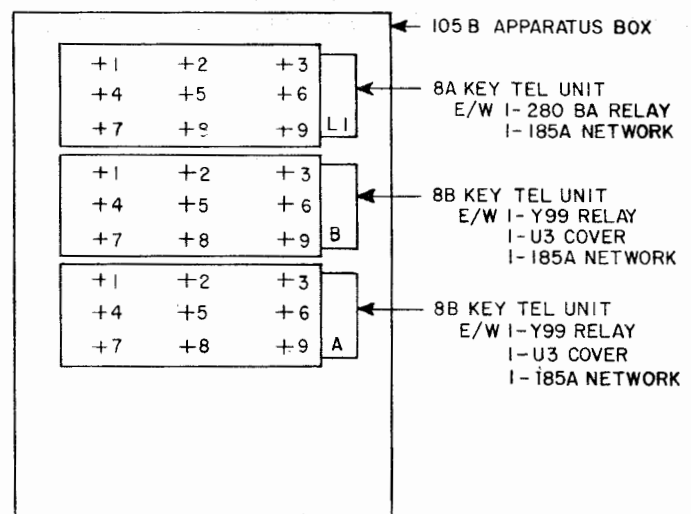

Figure 1
- (1) This is a true noninterfering feed-out arrangement which will not lose the first character transmitted while the feed-out is functioning.
- (2) No additional conductors are required as control circuits.
- (3) The sending station is not required to transmit any special feed-out characters or to delay the start of a message in order to provide time for the feed-out operation to function.
- (4) It cannot be used on sending-receiving typing reperforators or on a unit equipped with a line relay. If a line relay is required it must be mounted externally or associated with the tape feed-out control circuit.
- (5) The control equipment may be mounted on a rack, in an equipment cabinet or a 105-type apparatus box as shown in Figure 1.